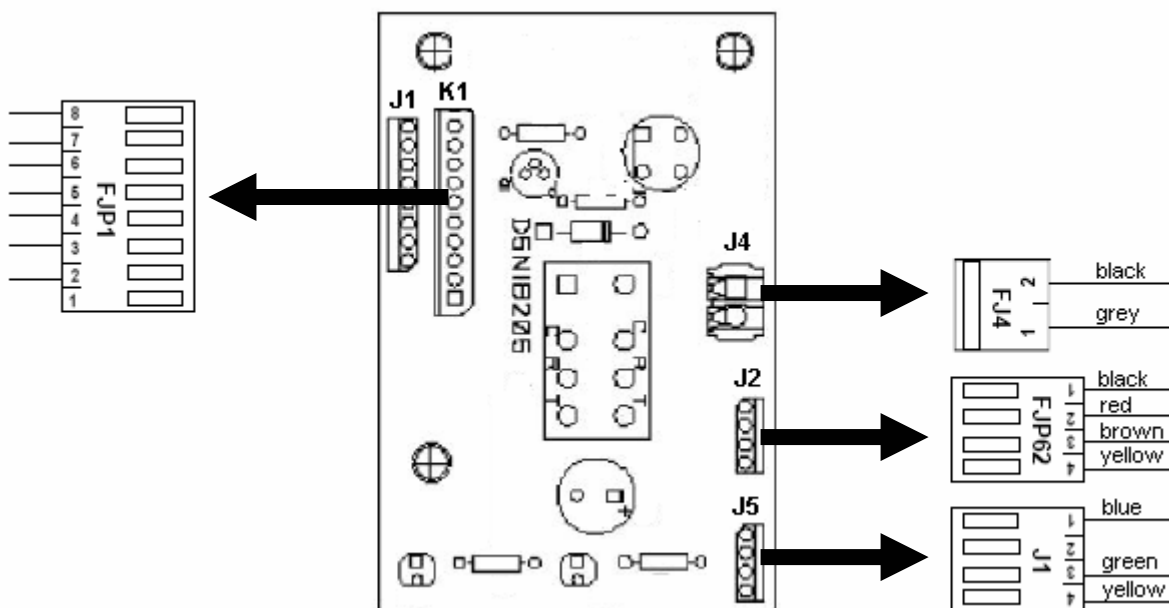

Figure IV-3 : Keyboard transfer board, connectors
2. Disconnect connectors at J4, J2 and J5 from the keyboard transfer board (see Figure IV-3).
6. Unplug the connector at port K1 of the keyboard transfer board (see Figure IV-3).
1. Plug in again the keyboard connector in port J1 of the keyboard transfer board (see Figure IV-3)
2. Unplug the flat keyboard connection cable at port J1 (see Figure IV-3) from the keyboard transfer board.
6. Plug the keyboard connector in port J1 of the transfer board (→ Figure IV-3).